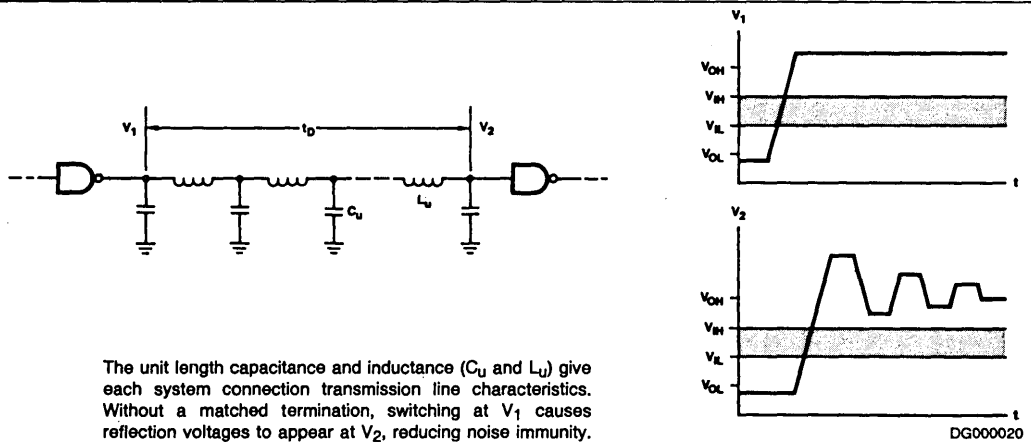

Figure 2. Line Reflections
- **Transmission Line Reflections:** Like it or not, every signal path in the system has transmission line characteristics. TTL signal paths are usually not designed as transmission lines, with predictable and uniform characteristic impedances. This is partly because of the higher costs implied for multilayer PC boards with internal ground planes, termination resistors, etc. It is also the result of TTL logic's limited ability to drive the low impedance lines provided by current PC board technologies. Hence, TTL signal paths do exhibit the ringing and reflection problems associated with improperly terminated transmission lines. These reflections subtract from the available noise immunity as shown in Figure 2.